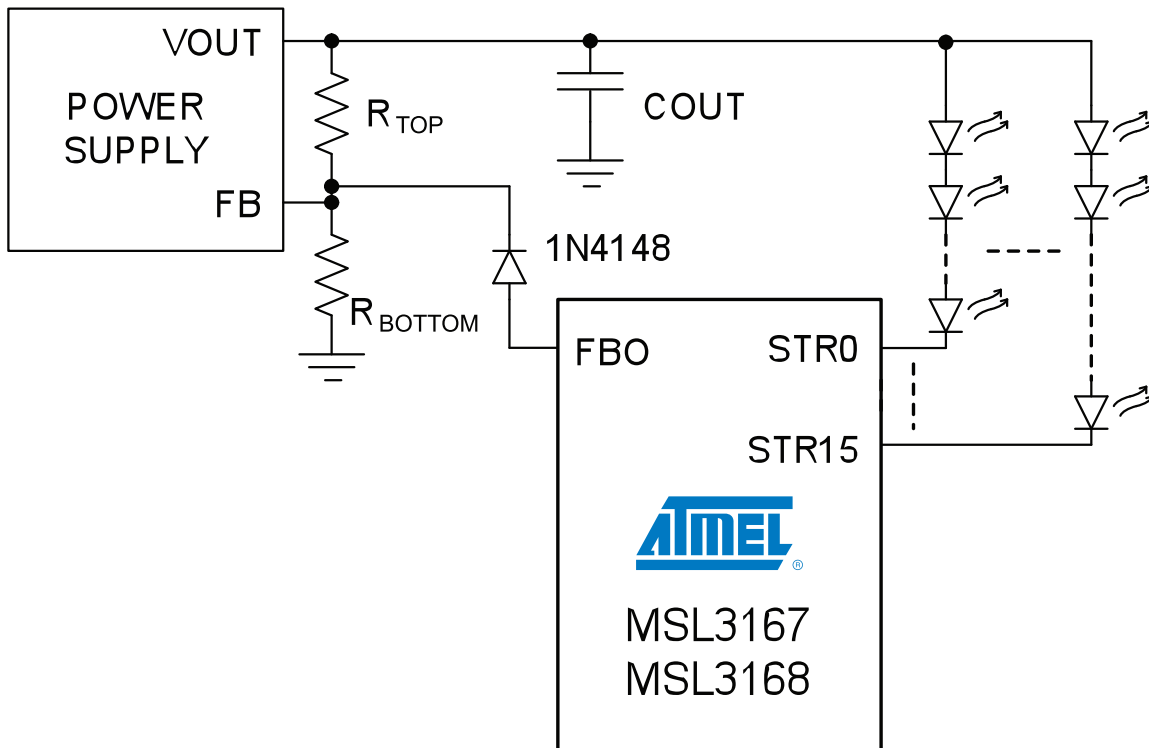

Figure 5. Atmel LED Drivers-MSL3167/8 FBO Connection to Power Supply Voltage Divider
The Efficiency Optimizer (EO) improves power efficiency by injecting a current of between 0 and 255 μA into the voltage divider of the external power supply (Figure 5), dynamically adjusting the power supply's output to the minimum voltage required by the LED strings. This ensures that there is sufficient voltage available for LED current control and good power supply noise rejection, while minimizing power dissipation. The power supply must have a nominal feedback voltage of no more than 3.5V, and the voltage setting resistor divider must be accessible (sizing the resistors is covered in the next section).
The MSL3167/8 are designed to control LED string power supplies that use a voltage divider (R_{TOP} and R_{BOTTOM} in Figure 5) to set output voltage, and whose regulation feedback voltage is not more than 3.5V. To select the resistors, first determine $V_{OUT(MIN)}$ and $V_{OUT(MAX)}$, the minimum and maximum string supply voltage limits, using:
where V_{FB} is the regulation feedback voltage of the power supply. Place a diode (1N4148 or similar) between FBO and the supply's feedback node to protect the MSL3167/8 against current flow into FBO (Figure 5).